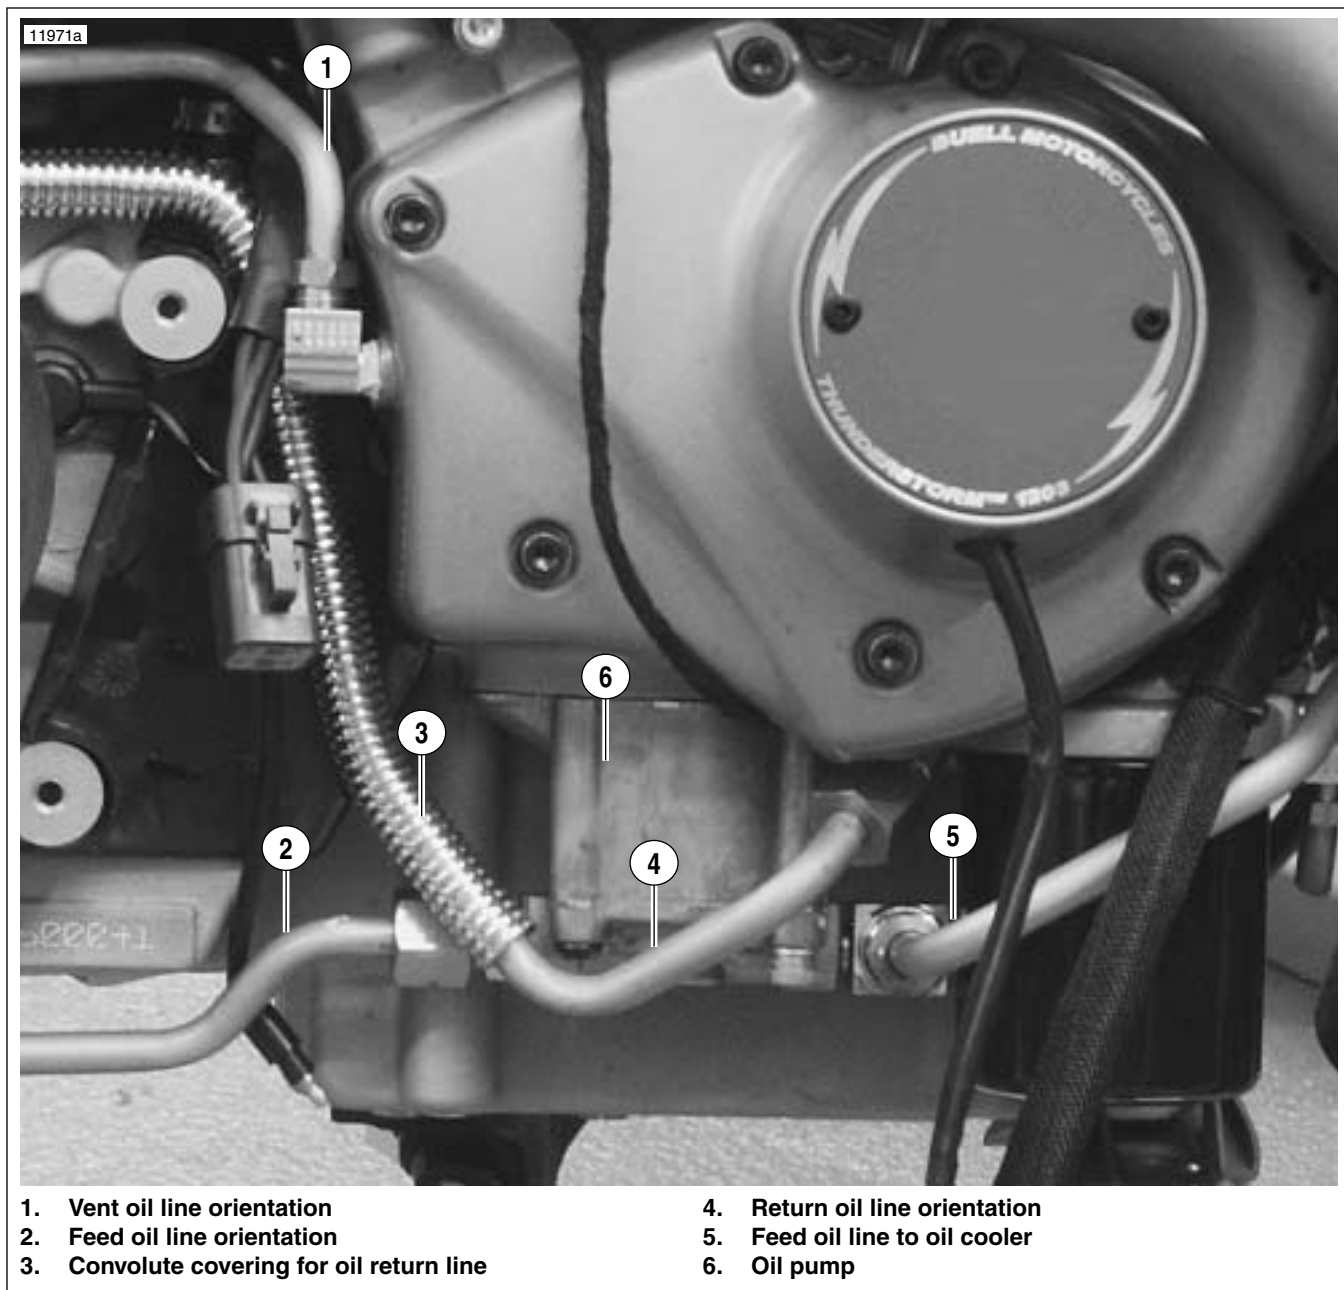

Figure 3-47. Orientation of Feed Oil Line, Vent Oil Line and Return Oil Line at the Oil Pump
25. See Figure 3-47. The feed oil line (2) at the rear of the of the oil pump should be tightened to 27-29 ft-lbs (36.6-39.3 Nm).
26. Tighten the return oil line (4) at the top front oil pump fitting to 22-24 ft-lbs (29.8-32.5 Nm).
See Figure 3-47. Once the return oil line (4) has been installed it will be necessary to install the convoluted covering (3) over the return oil line.
27. Tighten the vent oil line (1) at the gearcase cover to 12-13 ft-lbs (16.3-17.6 Nm).